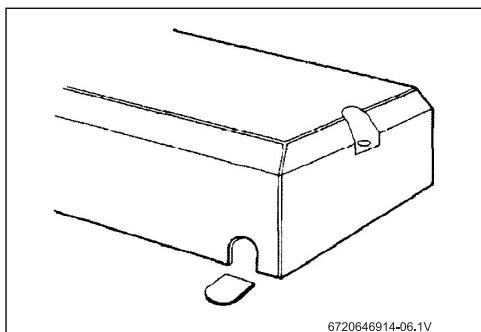

Fig. 9 Cover lug cut out
- If it is going to be through the cover bottom, cut out the plastic lug to expose the rubber sleeve (Fig. 9):